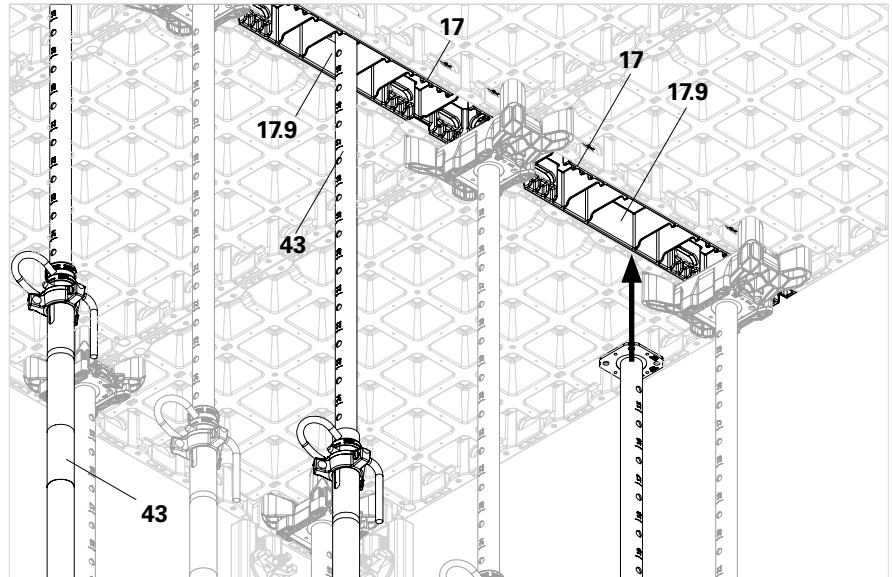

Fig. D5.02
1. Take measures to prevent falls and remove the guardrail boards from all SGP guardrail posts (75).
2. Position two slab props without prop-heads (43) in the prop supports (17.9) in the centre of two filler panels (17) that have been installed next to each other. (Fig. D5.02)
3. Remove DUO couplers (21) before lowering the slab props.
4. Insert both flanges of the DUO shuttering aid (37) into the connector pockets of the first DP panel.